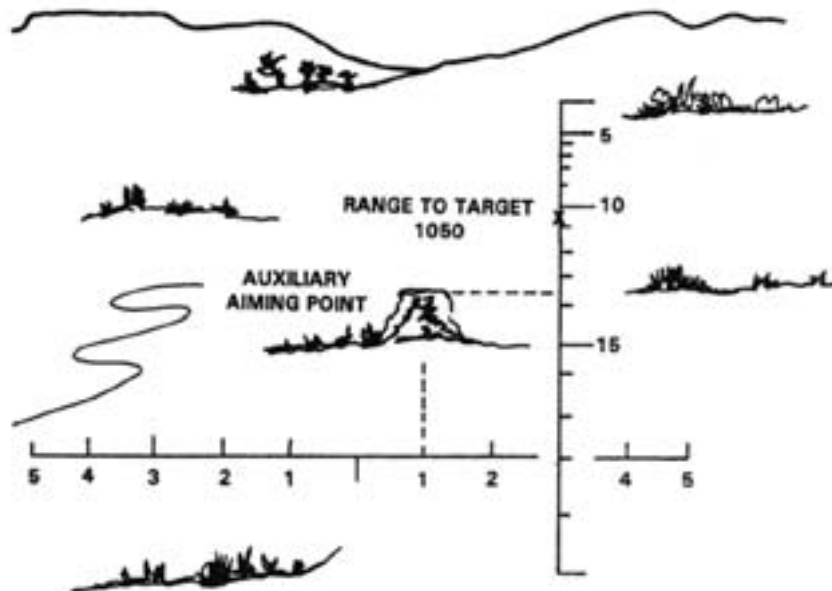

Figure 6-35. View Through Binocular; Use of Auxiliary Aiming Point.
(6) **Binocular method.** The leader selects a clearly defined object in the vicinity of the target (see figure 6-35). Using the inverted sight leaf, he aligns on the target that graduation which corresponds with the
range to the target (1.050). Keeping the binocular in that position, he reads the graduation on the scale opposite the auxiliary aiming point. When the auxiliary aiming point is not on the gun-target line, the deflection is read on the horizontal mil scale of the binocular. Using these readings as the sight setting and deflection, for example, range 1,350 sight right 20, the gunner lays on the object selected as the auxiliary aiming point and fires, distributing the fire as ordered by the unit leader. See figure 6-35.